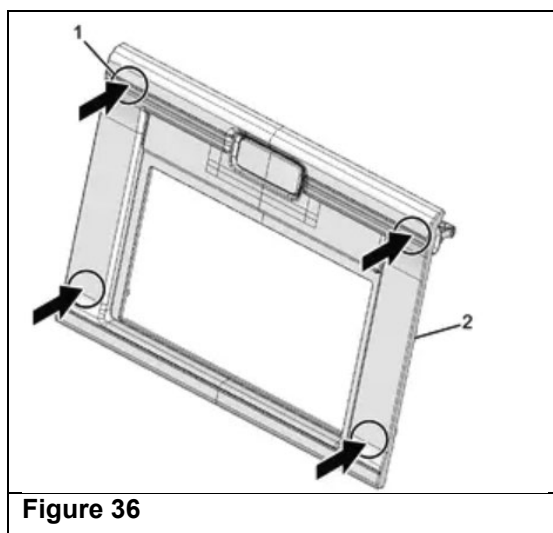

Figure 36
42. Install the bezel to the center cluster. (See Figure 36.)